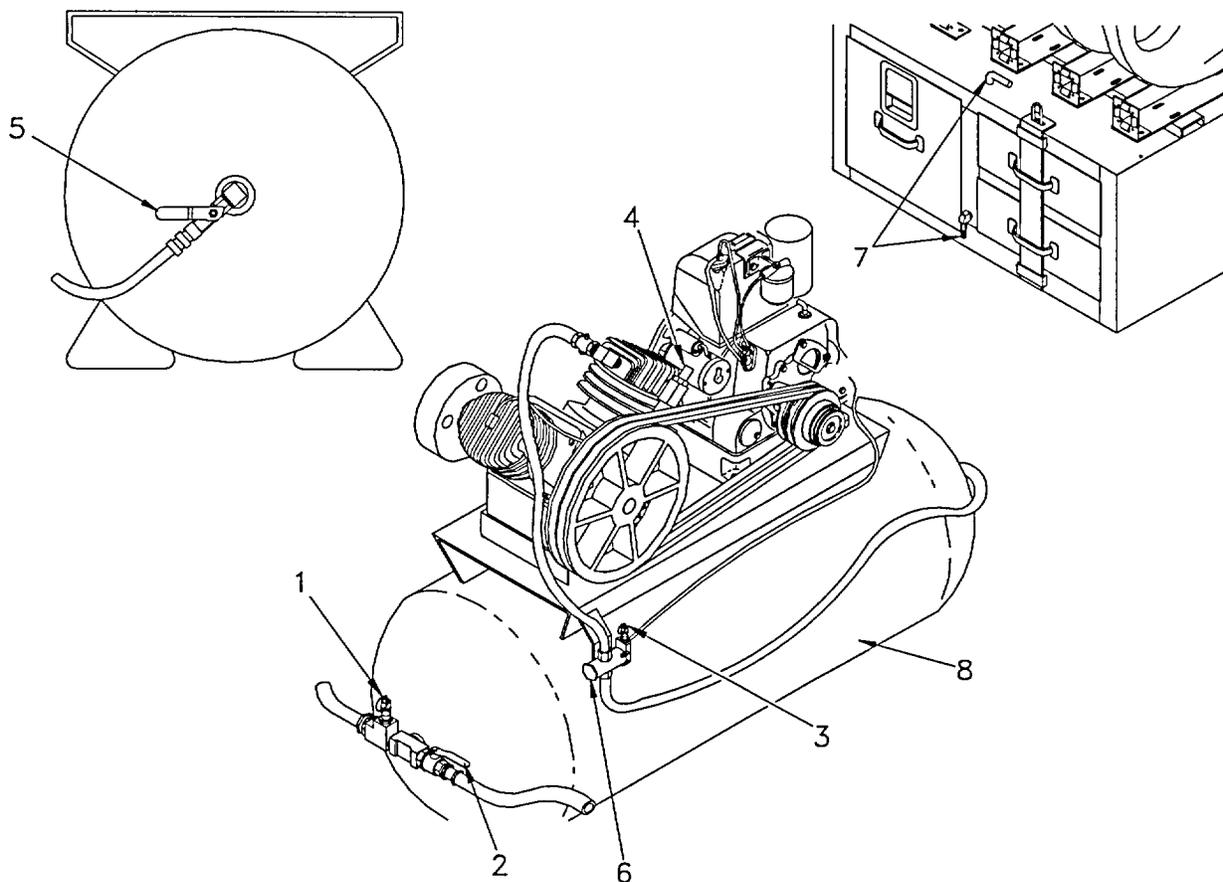
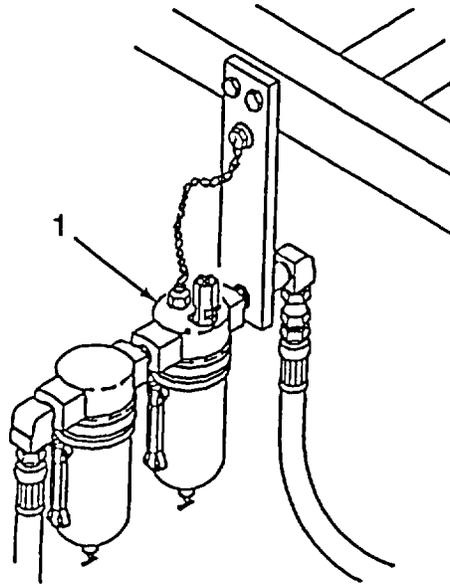

Figure 2-3. Air Compressor Assembly Controls and Indicators
Figure 2-4. Alcohol Injector Control Valve
c. Air Compressor Assembly. (Refer to Figure 2-3).
- (1) Spring-Loaded Pressure Relief Valve (1). An emergency device that relieves air pressure exceeding 200 psi. Without this device the tank could explode.
- (2) Ball Valve (2). Shuts off all air to pumps.
- (3) Adjustable Pressure-Actuated Mechanical Control (3). Stops the compression of air when the receiver tank pressure has reached 175 psig and starts the compression of air when the tank pressure has dropped to 140 psig. Air in excess of 175 psi is released into the atmosphere.
- (4) Spring-Loaded Interstage Pressure Relief Valve (4). Protects the low pressure cylinder of the air compressor in the event of failure of the high pressure cylinder.
- (5) Shut-off Valve (5). When closed, will shut off air to tank and isolate tank from the adjustable pressure-actuated mechanical control (6) Automatic Unloading Device (6). Protects the engine from starting against either tank pressure or compression in the compressor cylinders by relieving cylinders of air.
- (7) Condensate Removal Valve (7). Completely drains the tank of all moisture. Drain daily.
- (8) Air Receiver Tank (8). Stores compressed air created by compressor.
d. Alcohol Injector. (Refer to Figure 2-4).